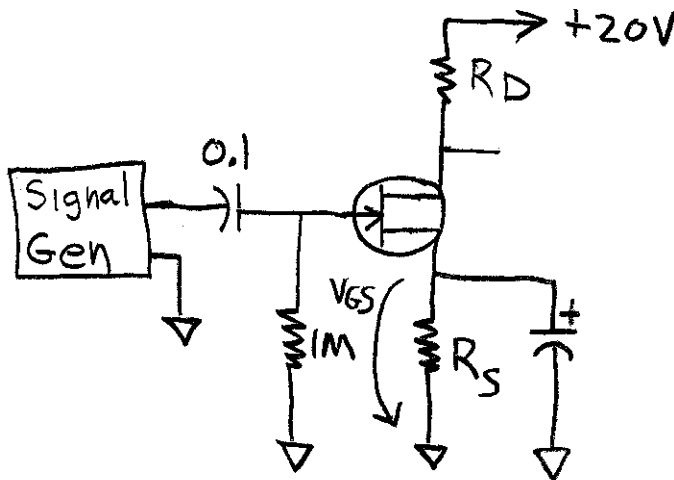

Figure 3
- 4.1 Build the circuit in Figure 3. To customize this part of the lab for good results for your particular JFET, choose a convenient value of  $R_D$  that is around  $20/I_{DSS}$  – this is only a rough guideline. Calculate the required value of  $R_S$  to bias the JFET for an  $I_D$  that is half of  $I_{DSS}$ . Use the nearest standard resistor.